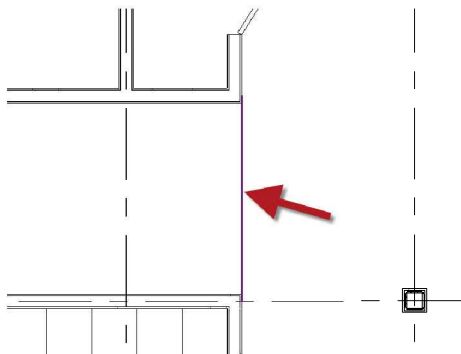

FIGURE 12-1.5 Room Separation Line added
12. Draw a line as shown in Figure 12-1.5.